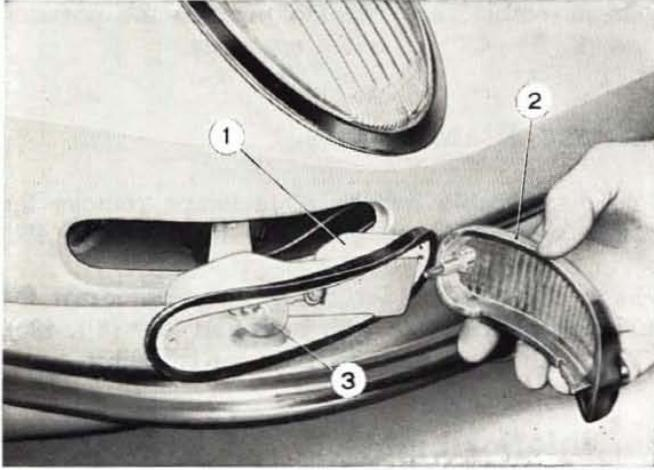

Fig. 496 - Disassembling front corner parking and direction signal lamp.
To disassemble the front corner parking and direction signal lamps just back out the screws which secure the lens (2, fig. 496) and the lamp shell (1) to the body.